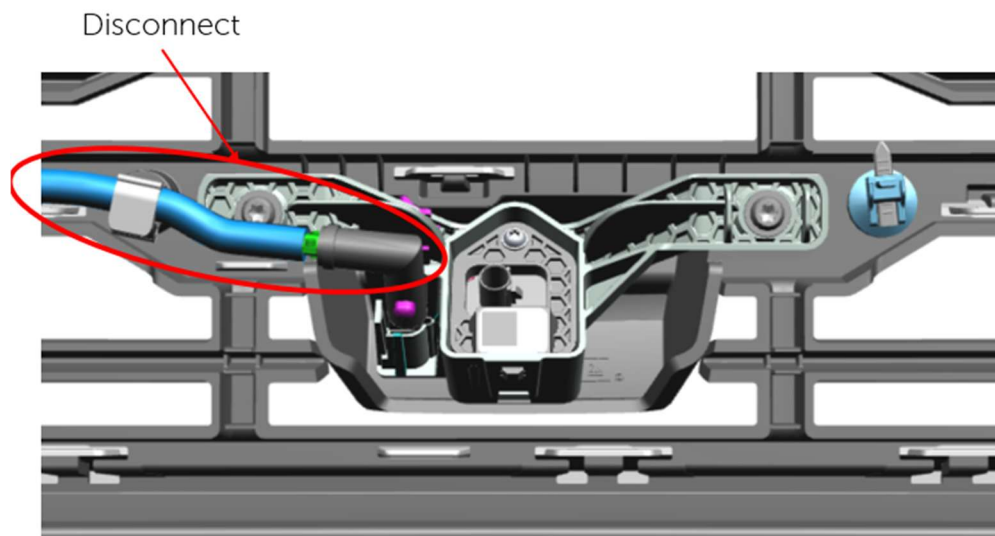

Figure 12
- A. Fully disconnect wiper fluid harness from grille fascia retention – this will re-route through AEV lower weldment. – Fig. 12